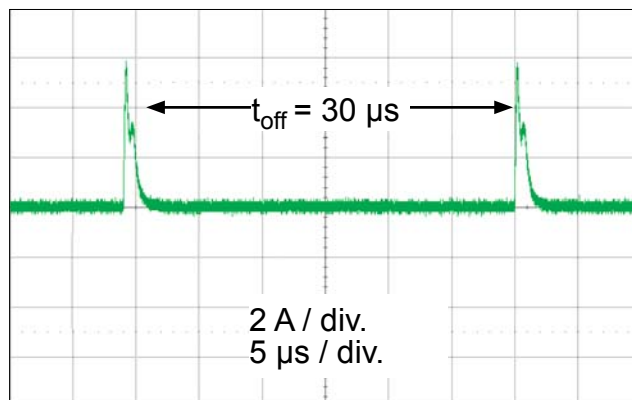

Figure 7. Short-to-load event
**Shorted Load** During a shorted load event, the current path is through the sense resistor. During this fault condition the device will be protected, however, the fault will not be latched. When the full bridge turns on, the current will rise and exceed the overcurrent threshold. After the blank time,  $t_{\text{BLANK}}$ , of approximately 1  $\mu\text{s}$ , the driver will look at the voltage on the SENSEx pin. The voltage on the SENSEx pin will be larger than the voltage set by the REF pin, and the full bridge will turn off for the time set by the ROSC pin. Figure 7 shows a shorted load condition with an off-time of 30  $\mu\text{s}$ .